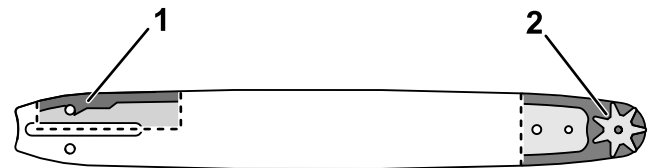

**Figure 31**
5. Remove the clip and drive sprocket from the chain saw (Figure 31).
9. Check the oil outlet (Figure 31) for debris and clean the area if necessary.